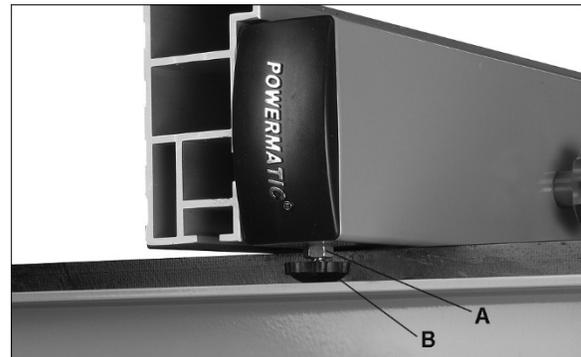

Figure 11: fence rear adjustment
- And/or...Adjust back end of fence by loosening hex nut (A, Figure 11) with 10mm wrench, and rotating sliding pad (B) in or out. When fence-to-table gap is equal, retighten hex nut (A) against fence body.